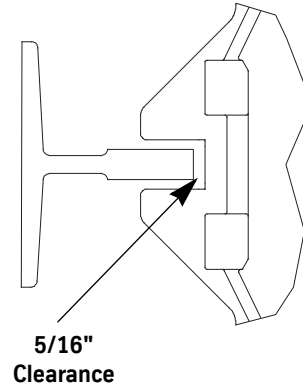

Figure 14 - Rail to Guide Throat Clearance
- Gaps between roller base and guide rail must be $\frac{5}{16}$ " (8 mm). See Figure 14.